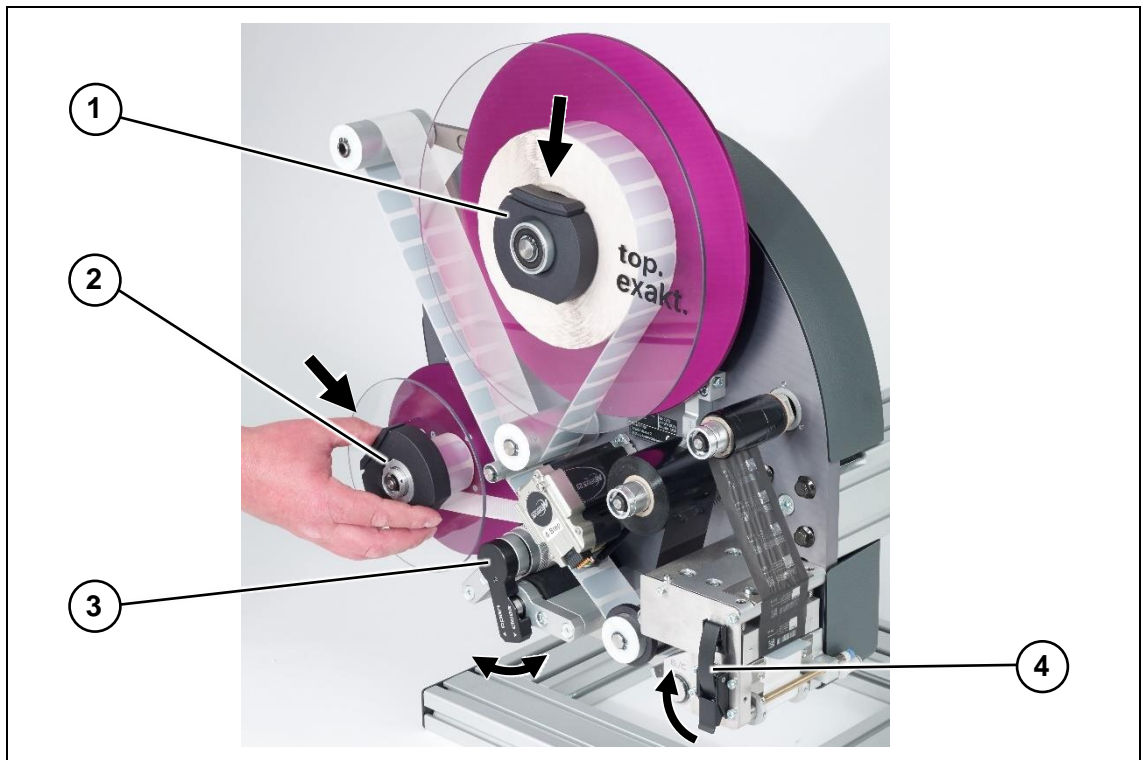

Figure 17 Removing the label roll
- 2 Remove the front flanged wheel (Figure 17, pos. 1) of the label unwinder by pressing and holding the clamping ring.
- 3 Lift the friction roller by releasing the lever (Figure 17, pos. 3) in the direction of the arrow.
- 4 Open the printhead by loosening the clamping device (Figure 17, pos. 4).
- 5 Remove the front flanged wheel (Figure 17, pos. 2) of the liner take-up by pressing and holding the clamping ring.
- 6 Place the front flanged wheels (Figure 17, pos. 1 + 2) on the roll cores by holding the clamping.
- 7 Close the printhead on the clamping device (Figure 17, pos. 4).
- 8 Put the friction roller back in place by locking the clamping lever (Figure 17, pos. 3) of the drive unit.
- 1 Open the printhead on the clamping device (Figure 17, pos. 4).